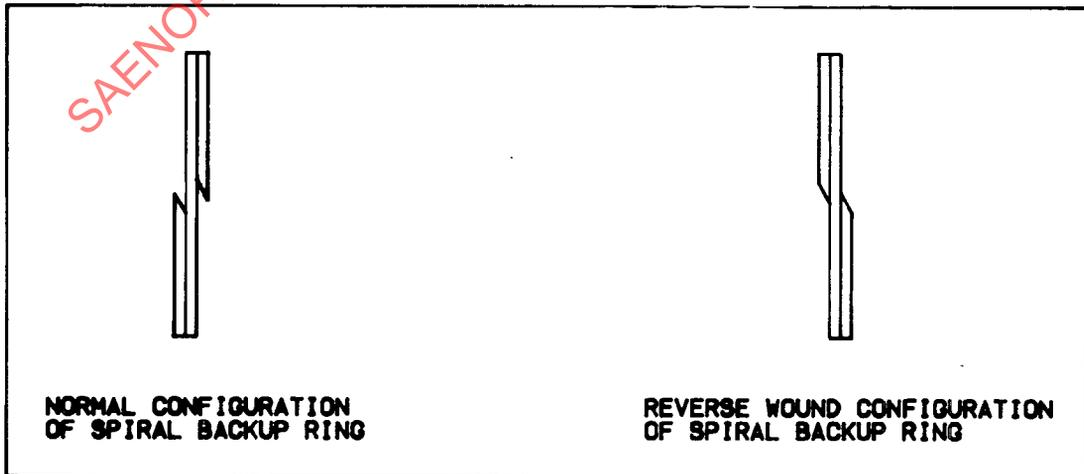

FIGURE 10
6.3.3 It is sometimes advantageous to install spiral-cut backup rings in a reverse wound condition, as indicated by Figure 10, especially for threaded installation. This installation method causes clockwise rotation, between the two ends, to tighten the coil of the backup ring during the threaded installation.